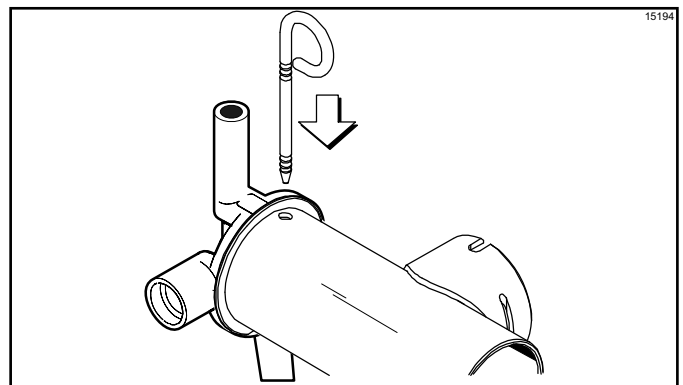

Figure 6-32
9. Secure the pump parts in position by sliding the retaining pin through the cross holes located at one end of the pump cylinder. (See Figure 6-32.)